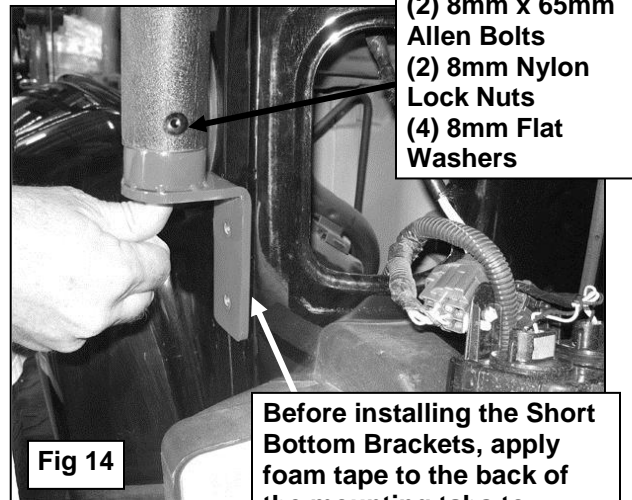

Fig 14
5. **OPTIONAL:** If you decide to bolt the Roof Rack directly to the body of the vehicle, remove both taillights from vehicle at this time, **(Figure 5)**. **NOTE: Drilling required for "Bolt Direct to Body" Installation. See Figures 14-On, Steps 18-On for detailed information.**
16. Select the (2) Short Bottom Brackets and apply Peel and Stick Foam Gasket Material (G) to the back of the 2-hole mounting tabs. With assistance, hold the rear section of the Roof Rack up and attach the Short Bottom Bracket to the Rear Top Leg Section using the included (2) 8mm x 65mm Allen Bolts, (4) 8mm Flat Washers and (2) 8mm Nylon Lock Nuts (**Figure 14**).